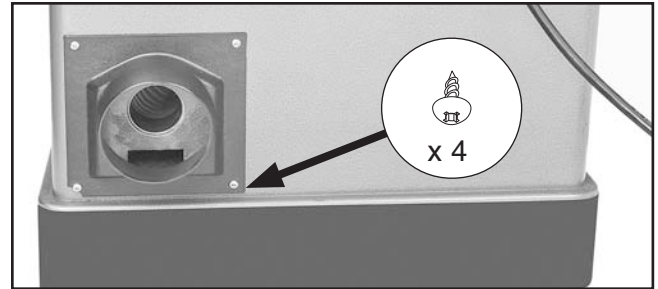

Figure 21. Dust port installed.
15. Mount the dust port onto the cabinet with the (4) pre-installed tap screws, as shown in **Figure 21**.